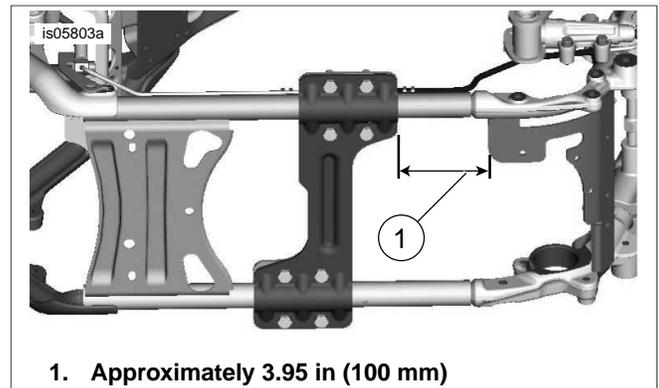
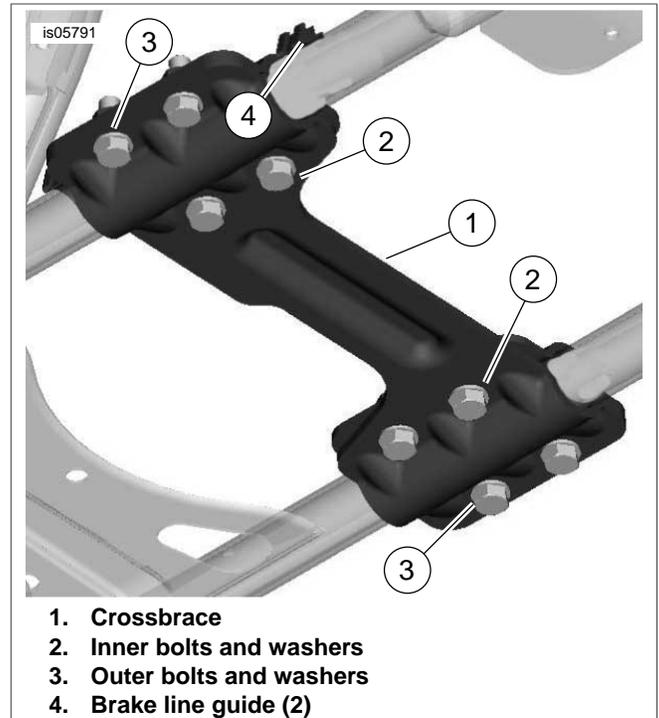

Figure 3. Position Crossbrace (view from under frame)
Figure 4. Install Crossbrace (view from under frame)
2. See Figure 3. Orient lower crossbrace as shown.
3. See Figure 4. Loosely install two crossbrace caps with ribs on caps toward the center of the motorcycle using bolts and washers (2 and 3) with one drop of Loctite 242 on each bolt. Note that right cap is installed under wire harness and brake line.
4. Tighten outer bolts (3) on each side to 90-110 **in-lbs** (10-12 Nm).
5. Tighten inner bolts (2) on each side to 90-110 **in-lbs** (10-12 Nm). Alternately check torque on the two inner bolts until the specification is met for both. There should be no gap between cap and cross brace at the outer joint, but there will be a gap at the inner joint. Repeat for the other cap.
6. See Figure 3. Verify that crossbrace remained in proper position.